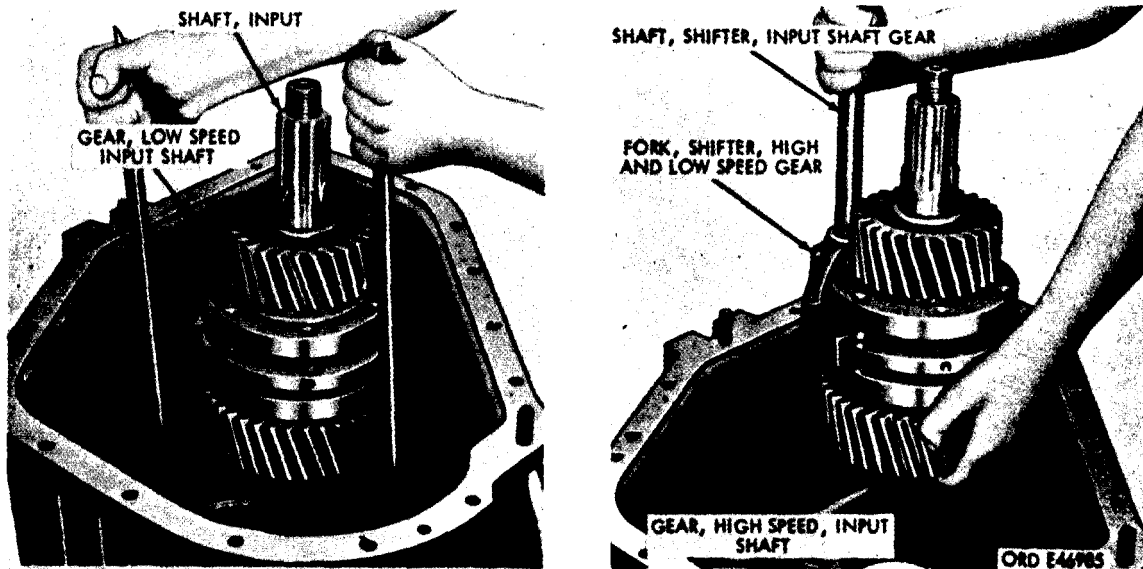

Figure 226. Removing input shaft from case
- (f) Using two crowfoot bars, pry up on input shaft high-speed gear (fig. 226) so as to free bearing from case.